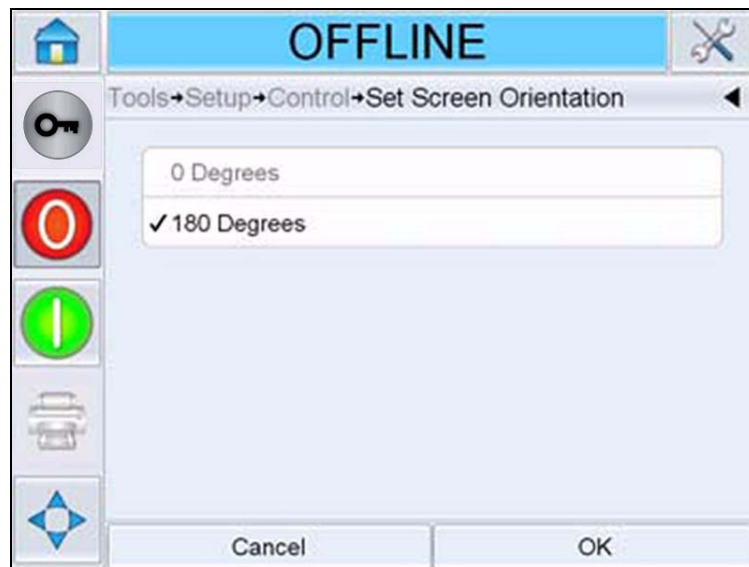

Figure 6-24: Set Screen Orientation
- 2 Touch *Set Screen Orientation* from the list. *Set Screen Orientation* page appears (see Figure 6-24).